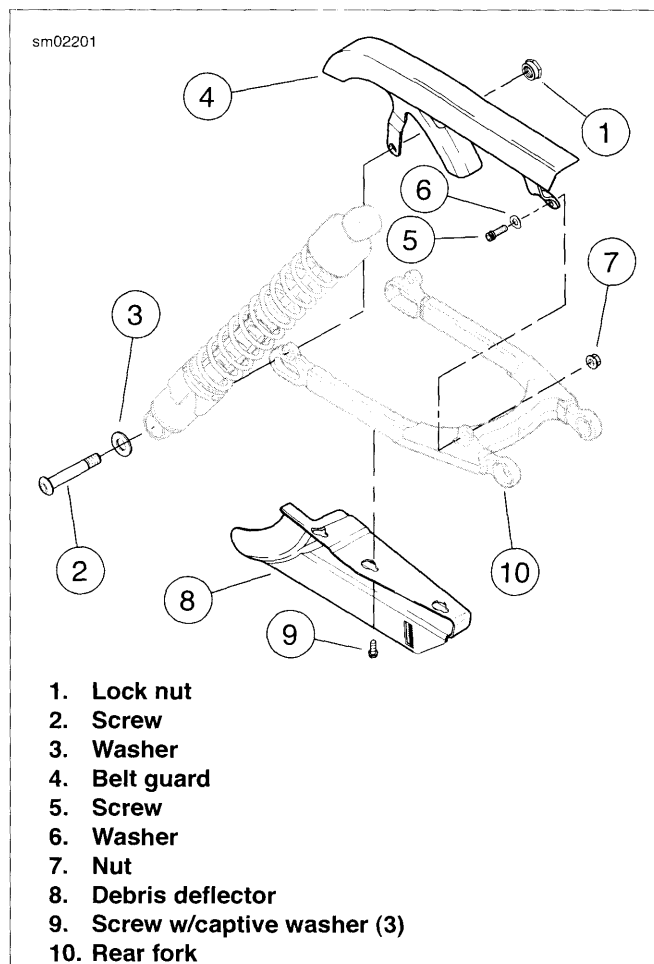

Figure 2-193. Belt Guard/Debris Deflector: XL Models
1. See Figure 2-193. Remove right side lower shock absorber mount lock nut (1). Pull shock absorber mounting screw (2) out slightly until it clears mounting hole in belt guard (4).
2. Remove screw (5), washer (6) and nut (7) securing front of belt guard to rear fork (10).
1. See Figure 2-193. Slide belt guard (4) into place on vehicle. Tab on front of belt guard mounts outboard of mounting bracket on rear fork.
2. Secure front of belt guard to rear fork (10) with screw (5), washer (6) and nut (7). Tighten to 120-180 **in-lbs** (13.6-20.4 Nm).
3. Push lower shock absorber mounting screw (2) through rear belt guard mounting hole. Thread lock nut (1) on screw. Tighten to 45-50 **ft-lbs** (61-68 Nm).
1. See Figure 2-193. Loosen, but do not remove, three screws with captive washers (9) securing debris deflector (8) to underside of rear fork (10).
1. See Figure 2-193. Position debris deflector (8) in place on underside of rear fork (10).
2. Fit large end of keyway slots in deflector over screw heads and captive washers (9). Slide deflector rearward to lock screws in slots. Tighten screws to 36-60 **in-lbs** (4.1-6.8 Nm).